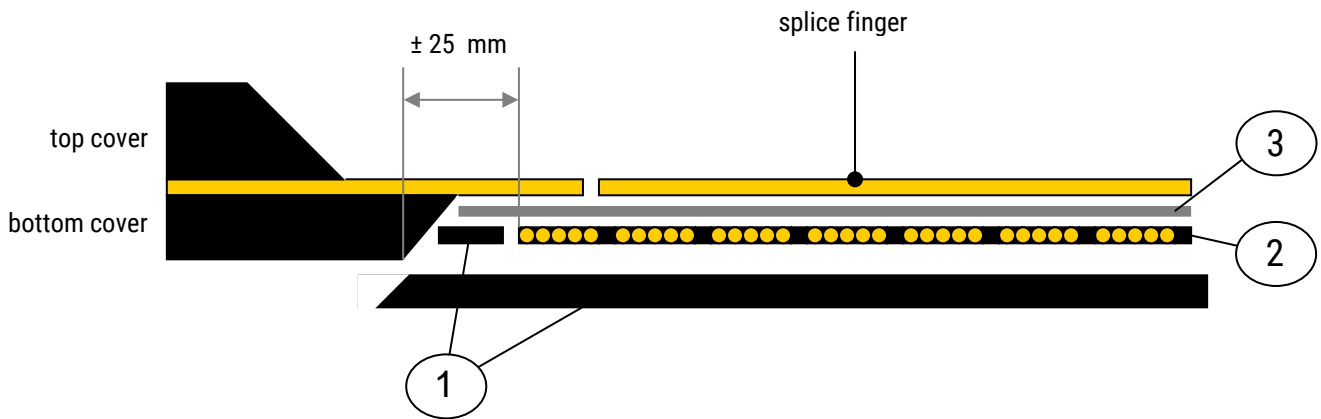

Figure 3. Building of the bottom cover
- Prepare the bottom cover to fit the dimensions of the splice (see figure 3). The thickness of the new bottom cover should be equal the thickness of the removed bottom cover or +0.5 mm. Apply solution to build up the bottom cover.